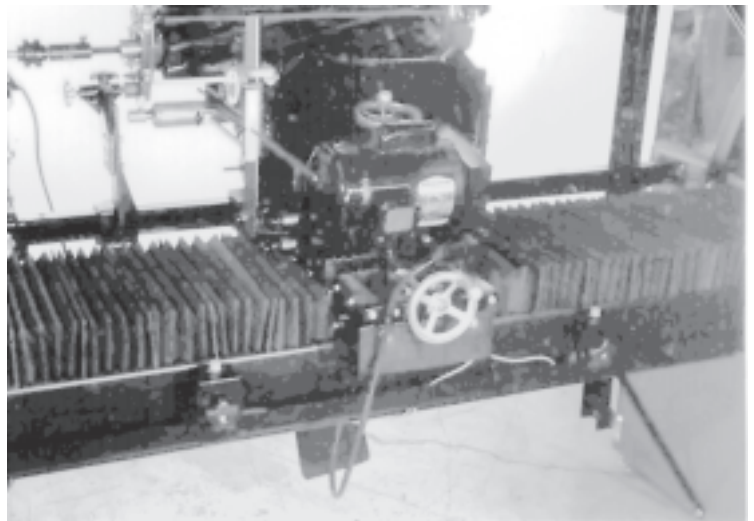

FIG. 55
- E. Move the grinding wheel back from the reel and frame so it will clear at all points. Set proximity stops so they line up approximately with the end of the frame and tighten them securely. Adjust the traverse speed knob to zero and turn traverse switch to on. Increase the traverse speed knob so the carriage will traverse slowly across the reel. See FIG. 55 & 56.